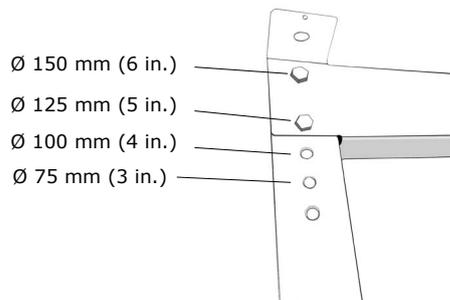

Fig. 4.1b Hose reel console holes
- Mount hose to the socket inside the drum using clamp (E).
- Bend hose into a natural soft curve and fasten it using clamp (B).
- Re-mount the drum lid (A).
- Mount the edge protection (C) at the opening of the drum where the hose protrudes.
- Mount the hose stop-ring (D) so that the hose stops at a convenient height when it is reeled in.
- The console holes are pre-set for the correct diameter hose, as shown in *fig. 4.1b*.